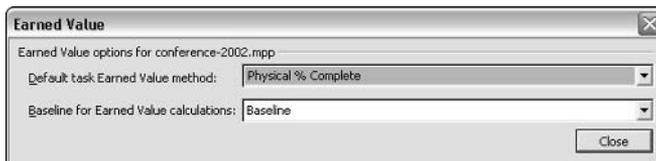

Figure 14-1: Choose the method of earned value calculation that you want Project to use.
3. Click the Earned Value button. You see the Earned Value dialog box, as shown in Figure 14-1.